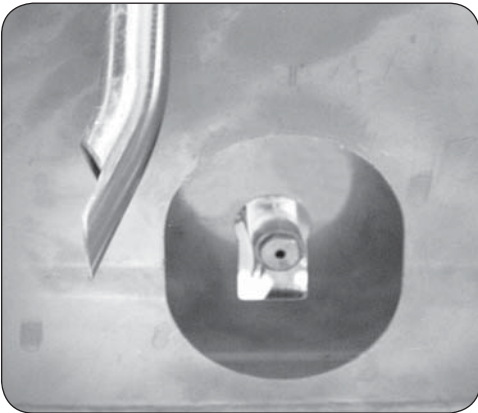

Fig. 1-1 Orifice holder location
6. Remove the burner and locate the orifice holder (see Fig. 1-1). The orifice holder is accessed from the inside of the grill.